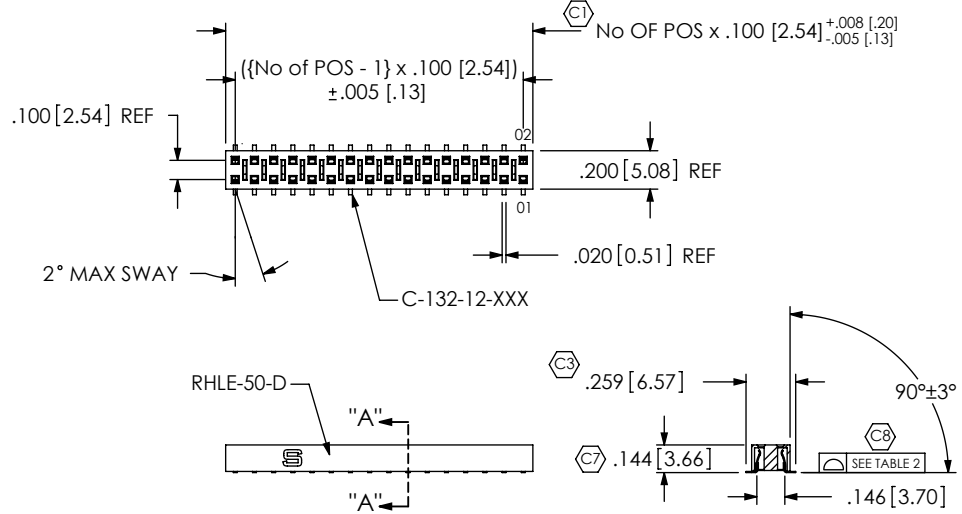

FIGURE 1
(SAME AS FIG. 1 UNLESS OTHERWISE STATED)
-K: POLYAMIDE FILM PAD (AVAILABLE ON POS -03 THRU -50: .005 [.13] THICKNESS WITH SILICONE ADHESIVE) (SEE FIG. 1)